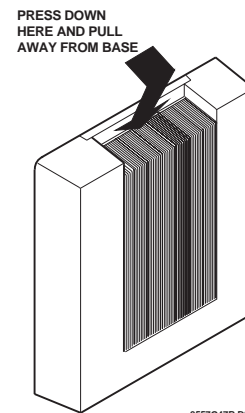

Figure 2. Removing the Cover
1. Remove the module cover and set it aside (Figure 2).
2. Remove the module cover and set it aside (Figure 2).
2. Remove and discard the module cover (Figure 2).